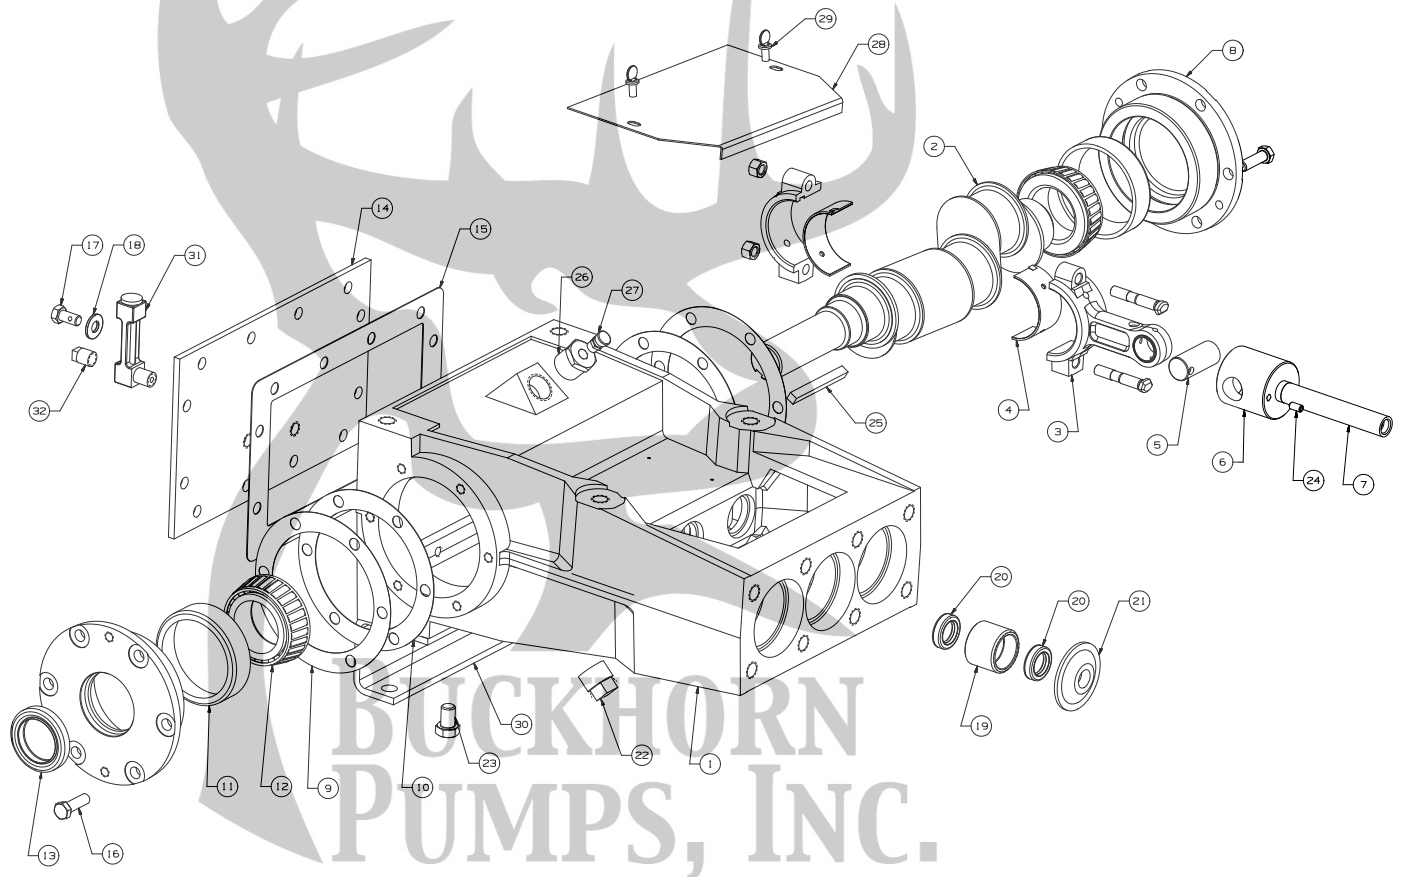
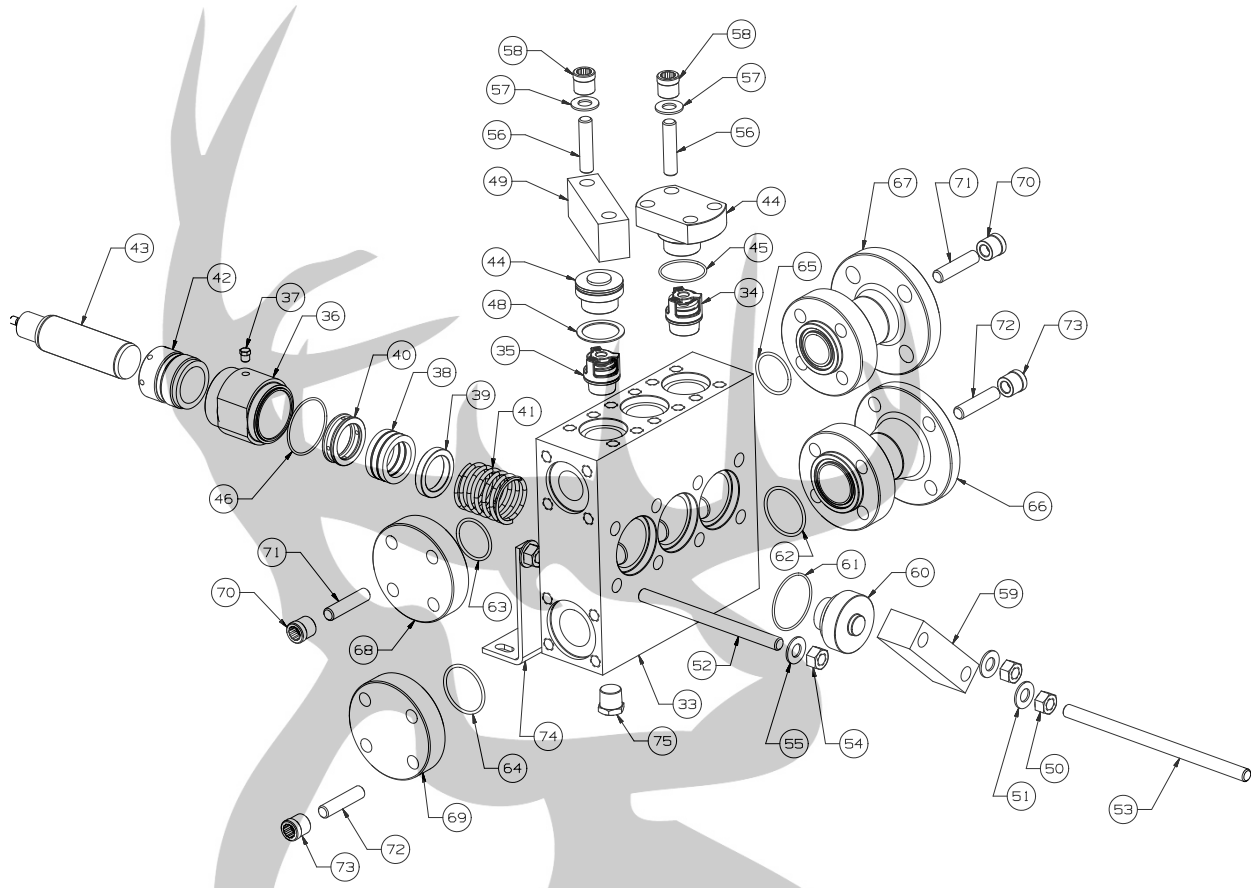
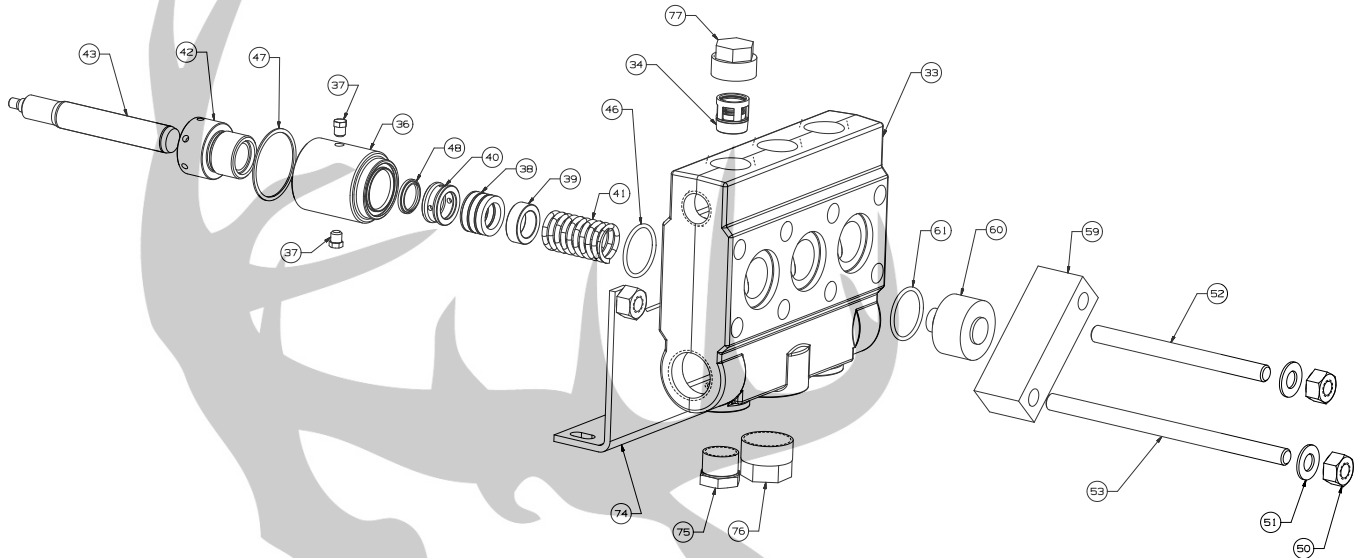

Figure 2: Power End Components
Figure 3: Fluid End Components (Forged Style)
Figure 4: Fluid End Components (Std. Cast Style)
Refer to Figure 2, Figure 3, and Figure 4 for location of components.
2. Refer to Figure 2, **Error! Reference source not found.**, and Figure 4 for location of components. Remove the six hex nuts (50) on the front cylinder cover clamp bars.